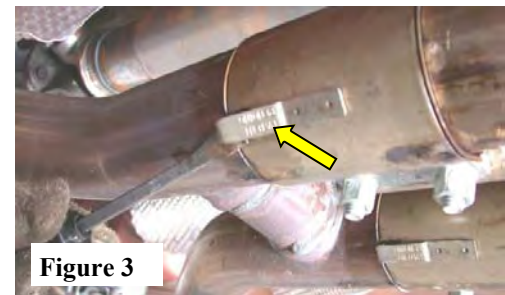

Figure 3
3. Beginning with the left (driver) side, using a flat blade screwdriver, pull the clip to disengage it from the pipe. (See Fig. 3)